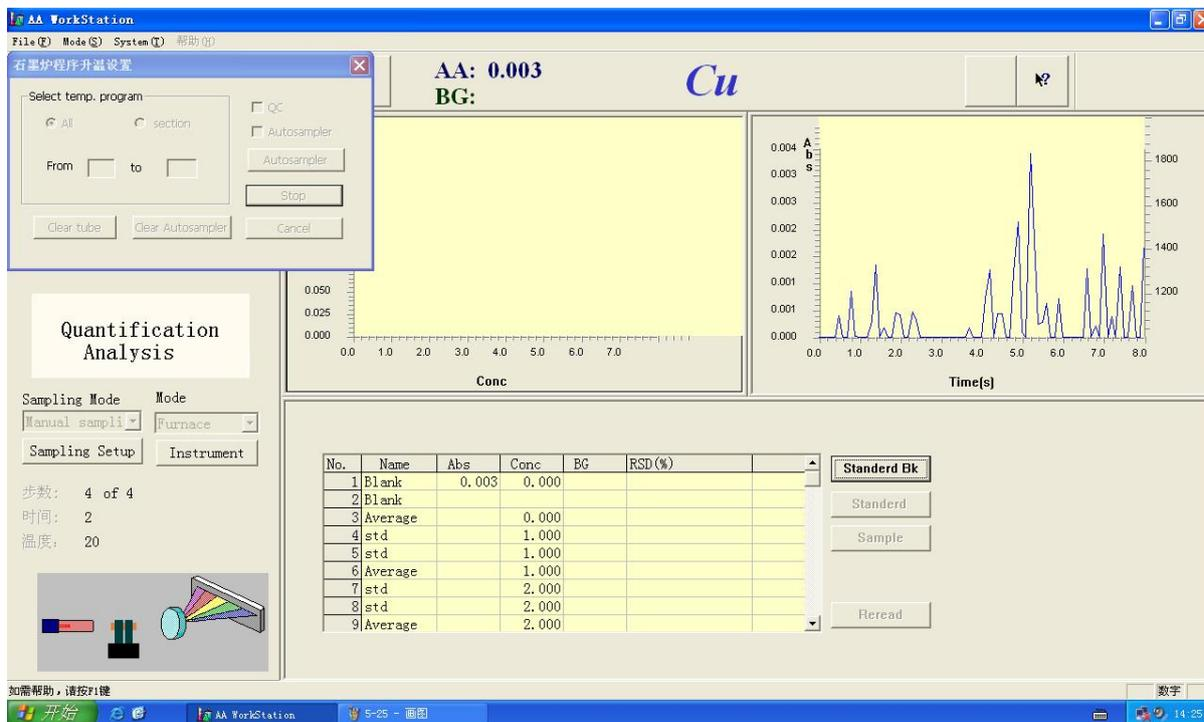

Figure 5-25
16. The heating procedure will be real-time displayed in the lower left of the operating interface. After the heating a collection of illustrative plates and data will be displayed (Figure 5-25)